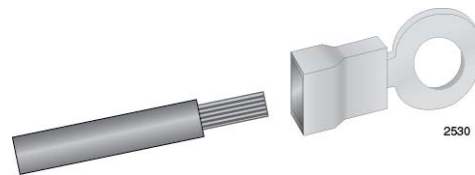

Figure 131. Attaching the Stranded Grounding Wire to the Grounding Terminal
2. Insert the grounding wire into the grounding terminal provided with the power supply and use a crimping tool to secure it to the grounding terminal. See Figure 131,